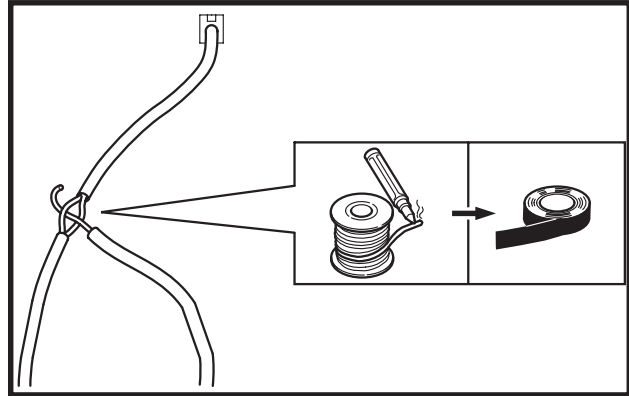

Fig. 14a
2. Separate the strands into two sections as shown in the figure 14a.
- a. Route the exposed solid grey wire on the driver's side from behind the 24-pin (34-pin for MY 2005) connectors to the black connector on the right. (see figure 14a)